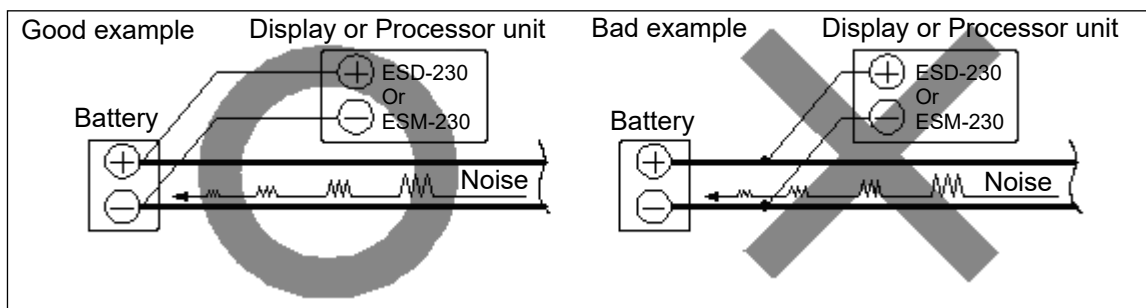

Fig. 1.1 CVS-875D/877D Connection of Power line
- (3) If you connect the power cable directly to the battery, interference from the other electronic equipment is expected to be less. (See Fig. 1.1)